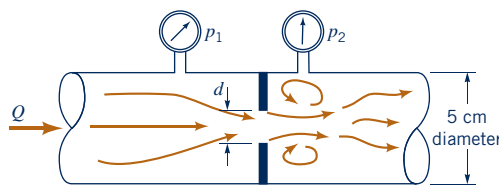

Figure P3.118
3.118 What diameter orifice hole, d , is needed if under ideal conditions the flowrate through the orifice meter of Fig. P3.118 is to be 113 L/min of seawater with $p_1 - p_2 = 16.34 \text{ kPa}$? The contraction coefficient is assumed to be 0.63.